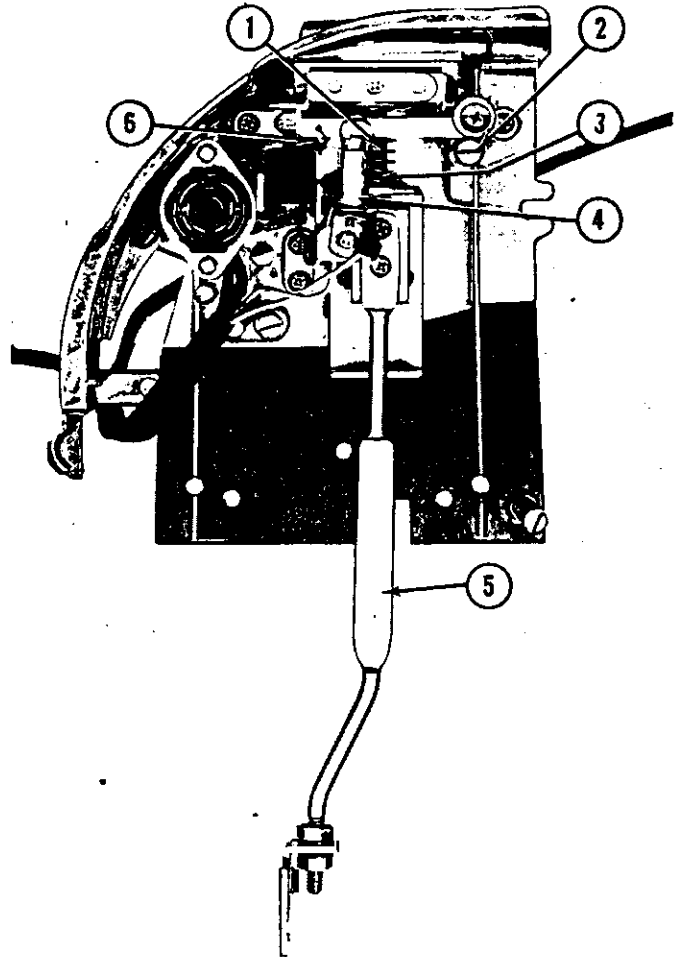

Fig. 22. CHEEK CASTING ASSEMBLY, R.H.
(3) The right hand cheek casting (Fig. 22) contains components similar to those in the left casting except for the assembly parts of the coin reject linkage which replace the reset switch of the left casting. Shown at Item 1 is the return spring for the reject linkage, at Item 3 the reject push rod, and at Item 5, the reject and bracket for connecting to the